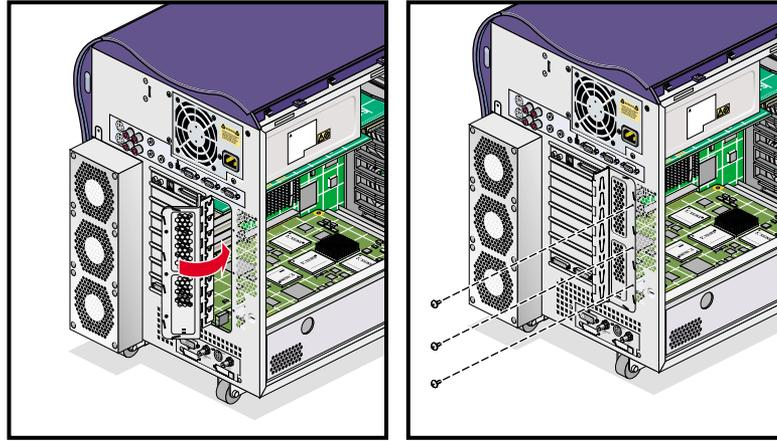

Figure 3-30 Closing the PCI Gate
6. Close the PCI gate. Then install the three screws that secure the PCI gate (see Figure 3-30).